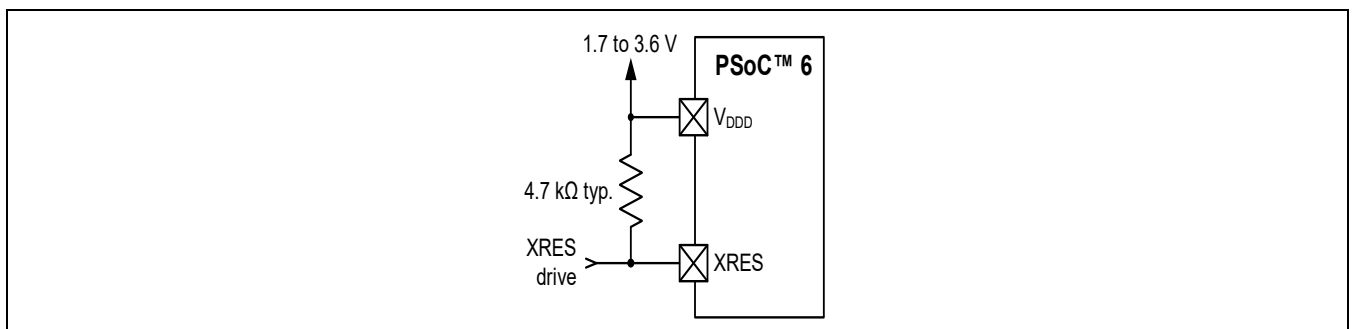

Figure 6 XRES connection diagram
- External reset dedicated pin (XRES) to reset the device using an external source. The XRES pin is active low. It can be connected either to a pull-up resistor to V_{DD} , or to an active drive circuit, as **Figure 6** shows. If a pull-up resistor is used, select its value to minimize current draw when the pin is pulled low; 4.7 kΩ to 100 kΩ is typical.